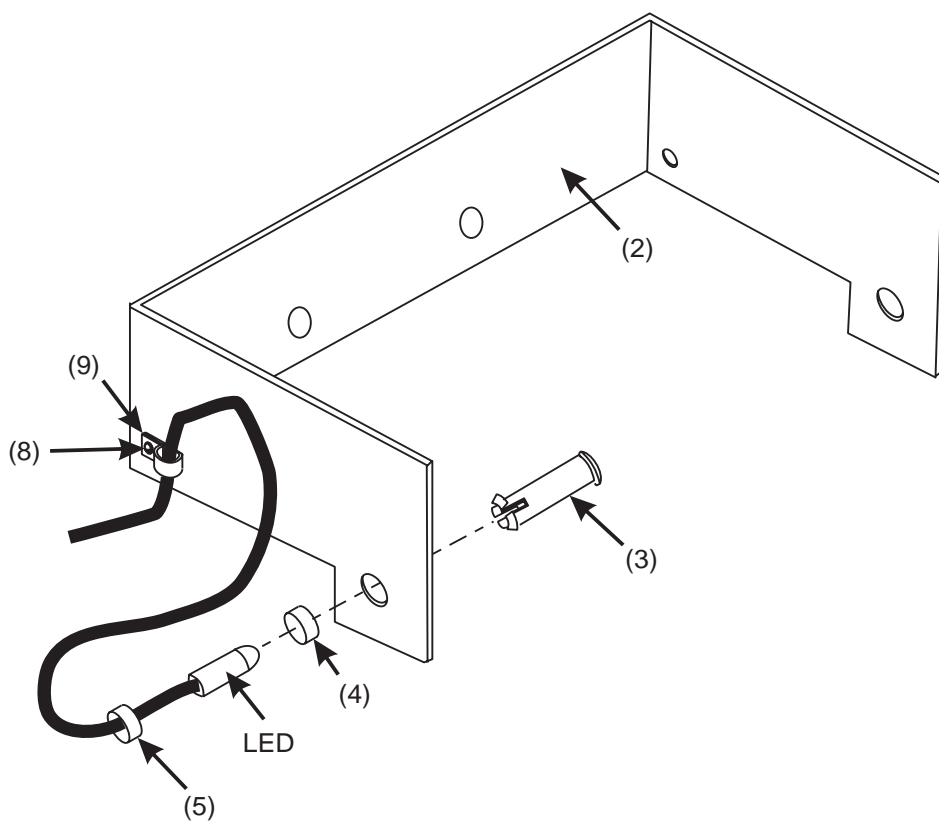

Figure 4
4. Install the emitter LED and detector phototransistor into the LED bracket (2) as shown (figure 4):
- a. Press one lens (3) into each side of the LED bracket (2).
- b. Press a spacer (4) onto each lens (3).
- c. Insert the LED into the lens (3) on the left. Insert the phototransistor into the lens (3) on the right. Fit the phototransistor tab into one of the slots on the lens.
- d. Press the LED locking ring (5) onto the lens, locking the LED in place.
- e. Capture the LED wires with the wire harness clips (9), and attach the clips to the LED bracket (2) using two screws (8).